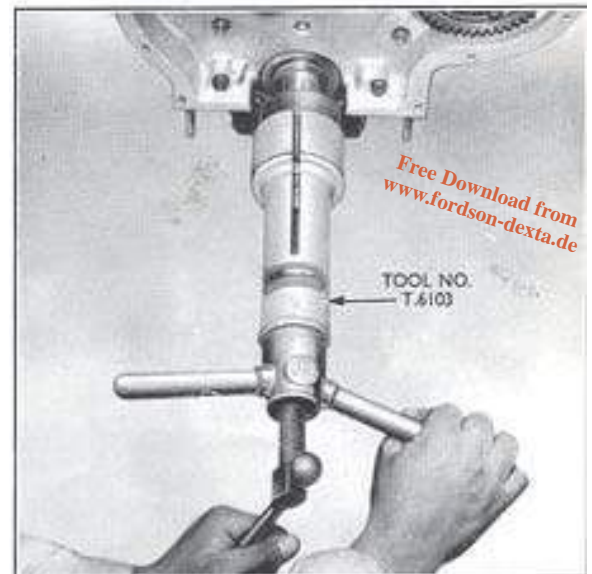

Fig. 16
3. Screw the centre bolt of the crankshaft gear replacer (Tool No. T.6103) into the adaptor and fit the semi-circular key locator (T.6103-1 b). The boss on the outside of the key locator must be fully entered into the slot on the tool body, and the slot on the inside of the locator must locate over the key in the crankshaft (see Fig. 16).
3. Replace the idler gear spigot so that the locating peg locates in the through drilling in the spigot (see Fig. 16).